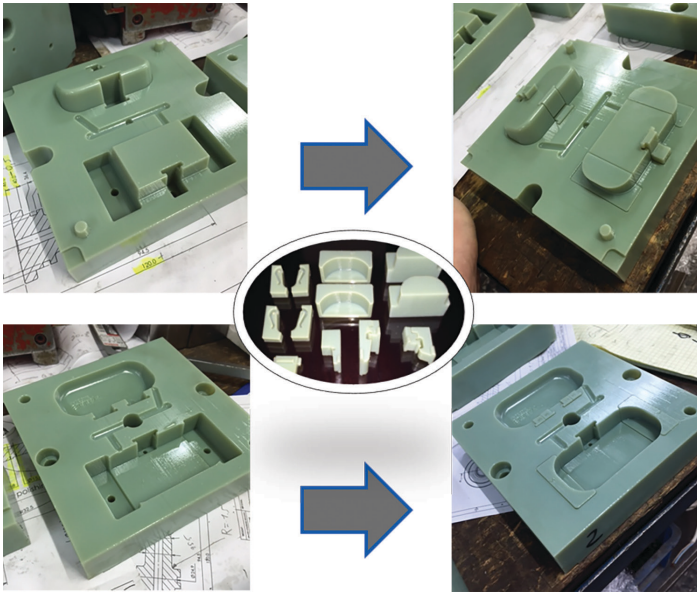

Figure 17B: 3D printed mold shown with multiple inserts.
- Solves venting problems. Like the traditional method, air might be trapped in the cavity and cause unfilled parts. When the mold cavity (the void that is filled with resin) has areas that need to be filled beneath the parting line the air might be trapped. To solve this, design the feature as an insert. See Figure 17A. Additional examples of 3D printed molds with inserts are shown in Figure 17B.